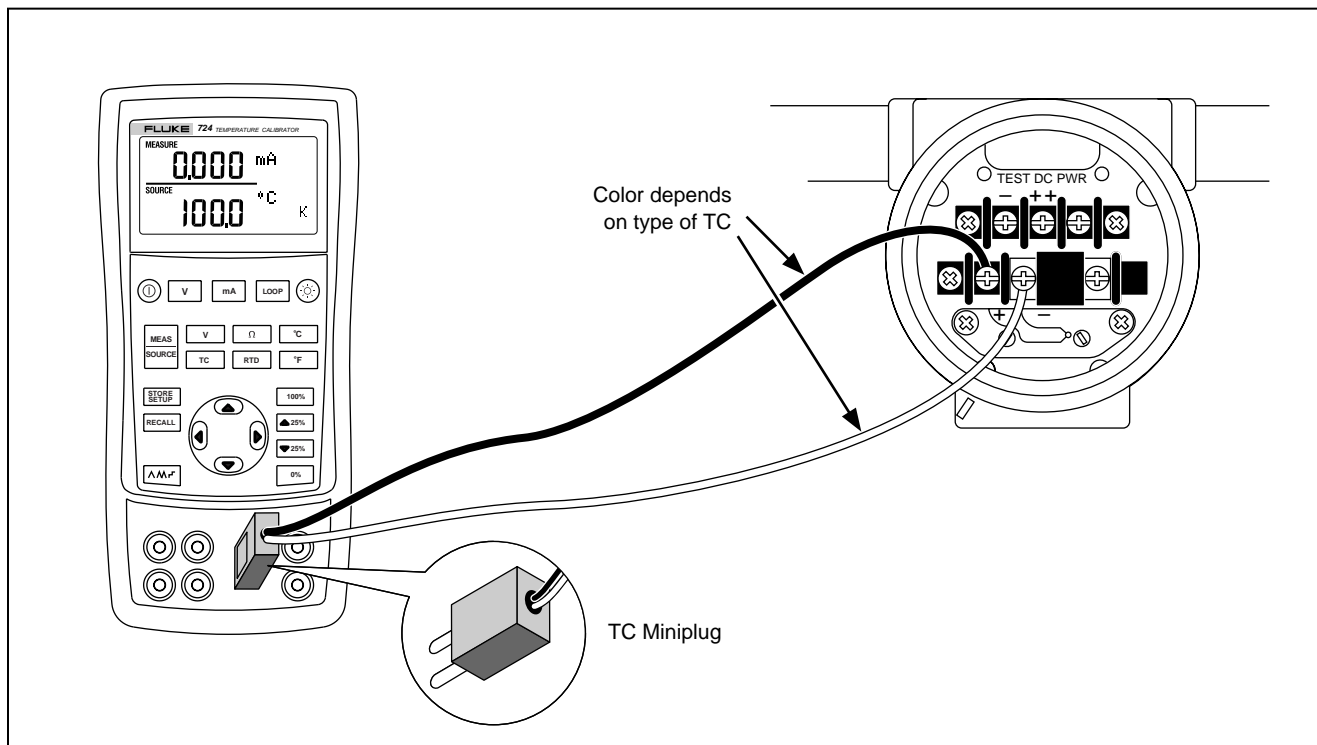

Figure 13. Connections for Simulating a Thermocouple
One pin is wider than the other. Do not try to force a miniplug in the wrong polarization. Figure 13 shows this connection.
1. Attach the thermocouple leads to the appropriate TC miniplug, then to the TC input/output as shown in Figure 13.